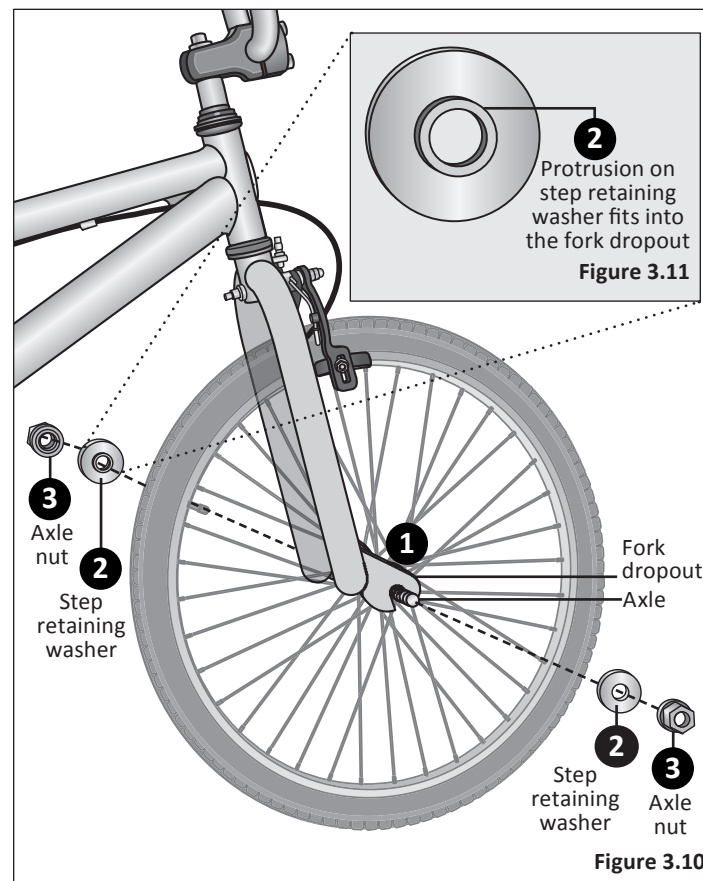

Figure 3.10
- 1** Position the front wheel between the front fork legs with the axle resting inside the fork drop outs. **Important!** Be sure the wheel is as **centered** as possible between the fork legs. **Figure 3.10**